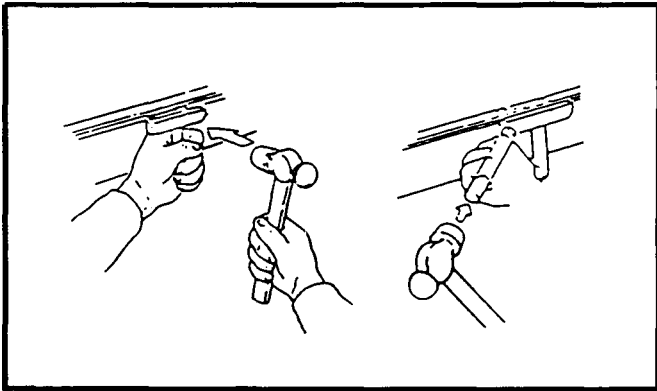

Figure 6.
2. Remove the oil pan. After removing all screws and nuts use tool CU40001 to remove gasket material from the block. See Figure 6.